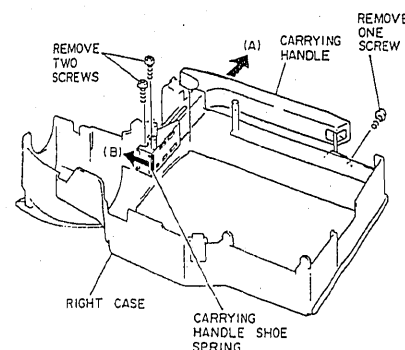

Fig. 2-8
2. Remove two (2) screws holding the carrying handle shoe. (See Fig. 2-8)
3. Remove one (1) screw holding the carrying handle.
4. While pulling the carrying handle shoe spring in the direction of arrow (B), remove the carrying handle in the direction of arrow (A).